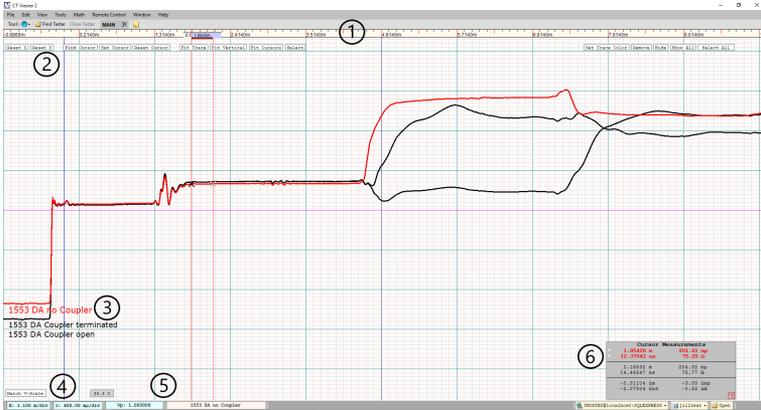
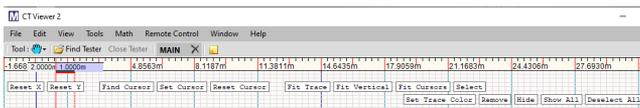

Figure 4.1 A sample workspace with three traces. The numbers on the figure correspond with the numbers below.
Figure 4.3 On-screen buttons.
In Figure 4.1, we can see a sample workspace with three traces loaded.
1. The ruler at the top is drawn using the units defined by the user. Figure 4.1 displays the horizontal units in meters.
The following functions assume that the operator has loaded a few traces onto the CT Viewer 2 workspace. Use Figure 4.1 as a base figure image for the following sections. Functions of on-screen buttons (Figure 4.3) can also be accessed through the *Tools* menu.
Selecting *Reset X* (*Reset X Offset* in the *Tools* menu) will restore the X-offset for the selected trace to zero. Figure 4.5 shows the selected trace has been shifted to the right 0.55 meters. The offset is displayed next to the trace label. The *Reset X* button will put it back to the 0 offset position as shown in Figure 4.1.
shows that the selected trace has been moved up on the display. *Reset Y* will restore it to its original position as shown in Figure 4.1.